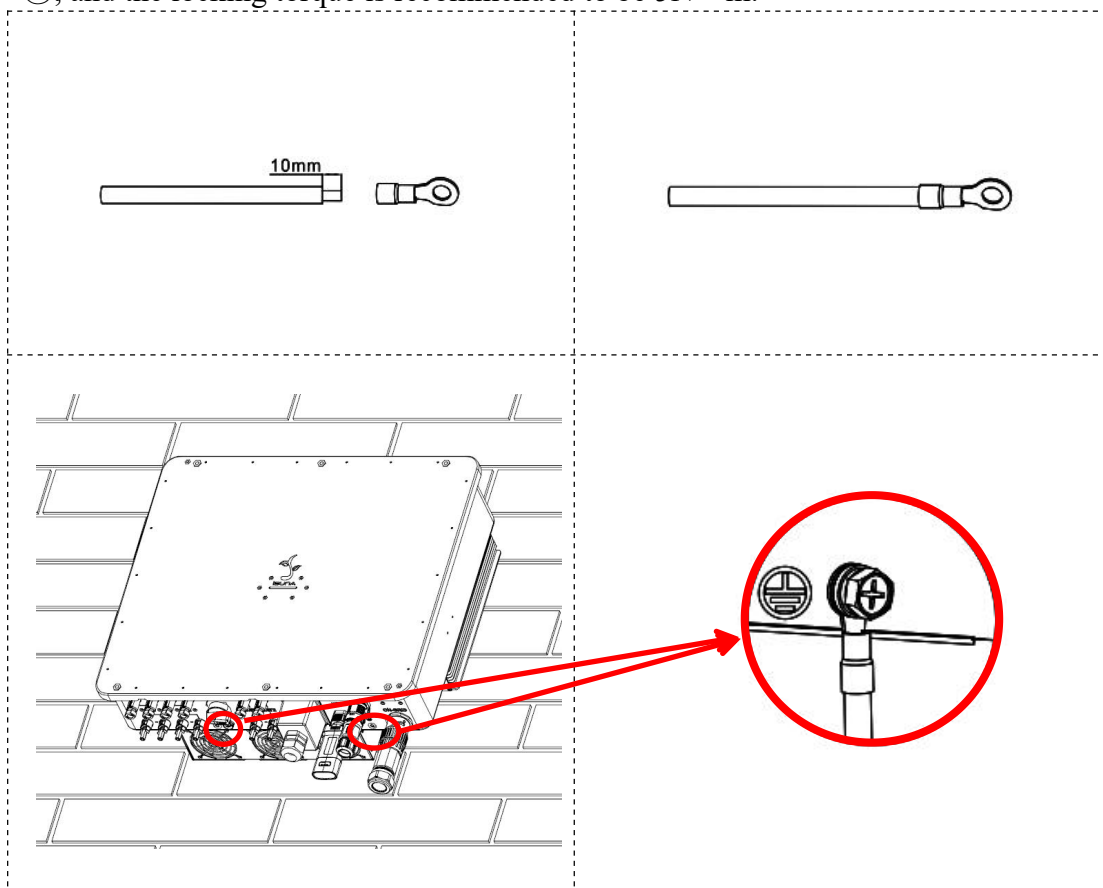

Figure 6.5 Schematic diagram of protective grounding
Step 3: Fix the OT terminal with M6 screws at the position shown in Figure 6.5 ③, and the locking torque is recommended to be 5N • m.